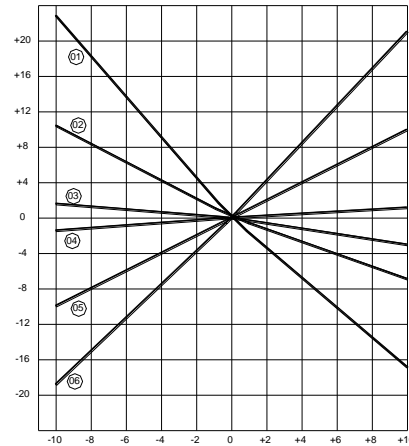
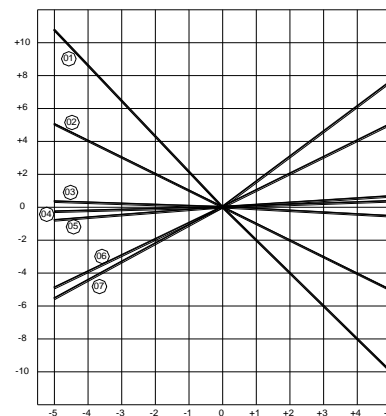

Figure 2.2: Voltage Variation percentage
Figure 2.3: Frequency Variation Percentage
The curves in Figure 2.2 and Figure 2.3 show the effect of voltage and frequency variations on the characteristics of the motor performance.
**Figure 2.2 legend:**
**Figure 2.3 legend:**
The effects shown in Figure 2.2 and Figure 2.3 are estimated and may vary depending on the motor type.